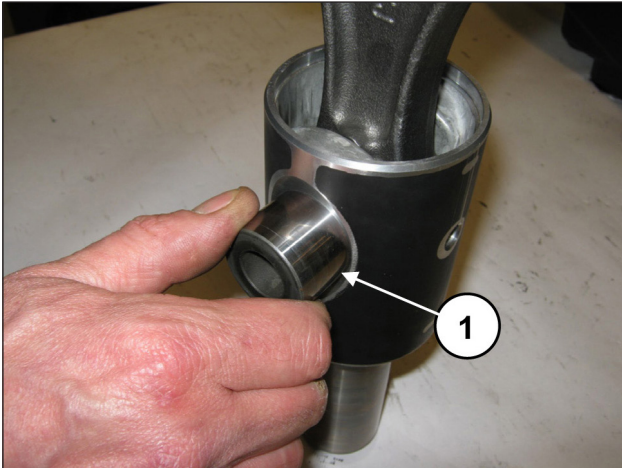
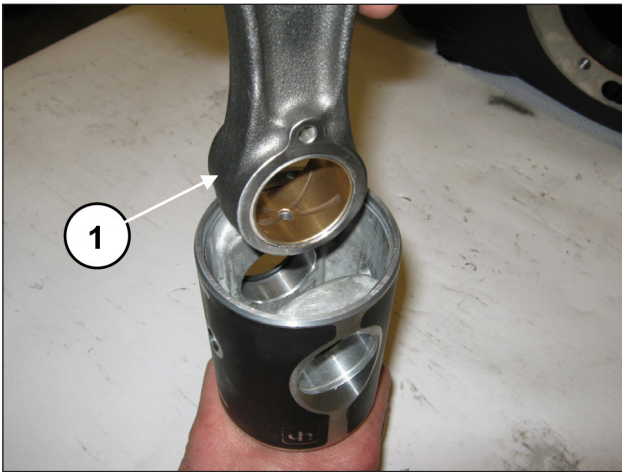

Fig. 40
Fig. 41
Remove the spindle (pos. ①, Fig. 40) and extract the conrod (pos. ①, Fig. 41).
Insert the conrod in the piston guide (pos. ①, Fig. 41) and then insert the spindle (pos. ①, Fig. 40). Apply the two shoulder Seeger rings (pos. ①, Fig. 39).